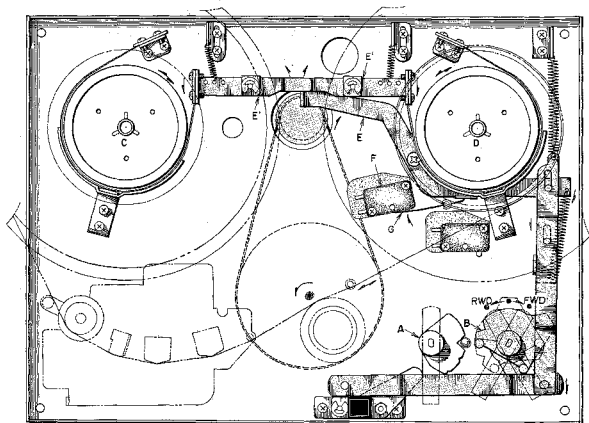

Fig. 10 F.FWD/RWD MODE
2. FAST FORWARD/REWIND MODE (Refer to Fig. 10)